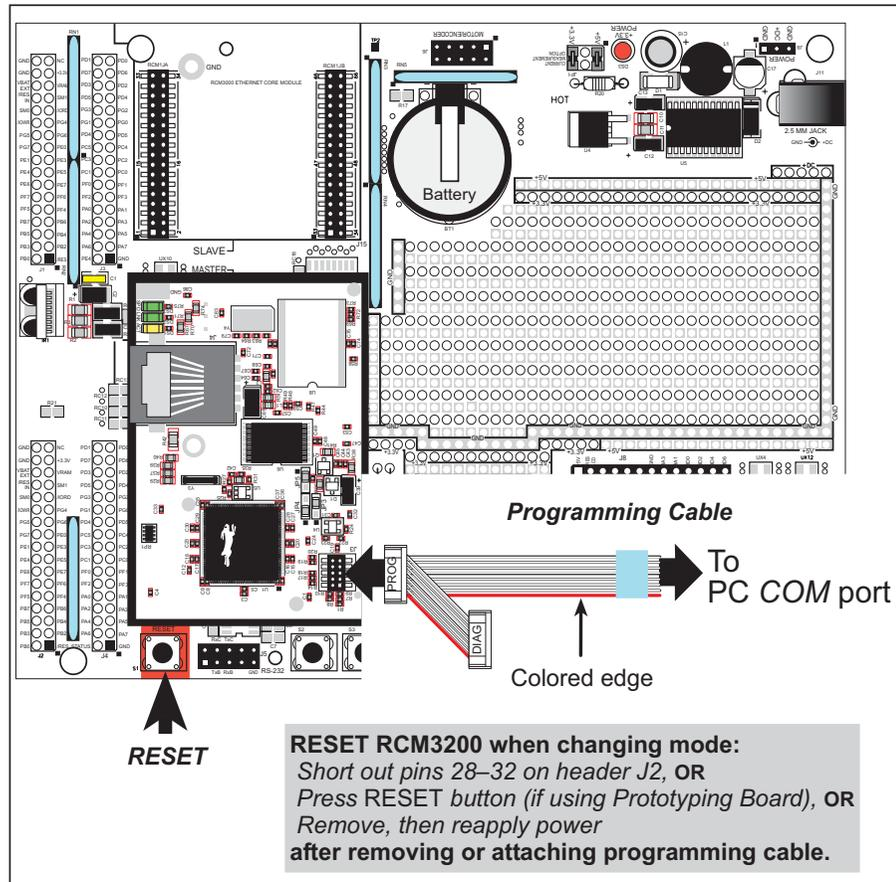

Figure 9. Switching Between Program Mode and Run Mode
2. Reset the RCM3200. You may do this as explained in Figure 9.